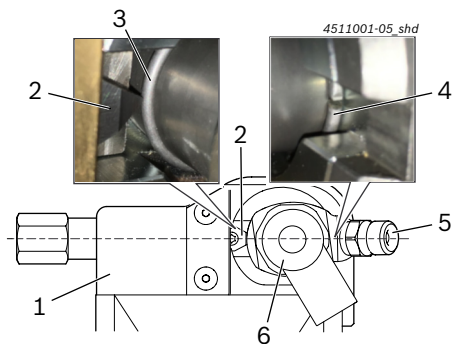

Fig. 5: High-pressure connection (item 5) opposite the replaceable cutting insert (item 2)
7. Push CRI into the dismantling tool as far as possible as shown in Fig. 5 and hold it in this position.
- ⇒ The snap ring (Fig. 5, item 3) is positioned exactly at the height of the replaceable cutting insert (Fig. 5, item 2).